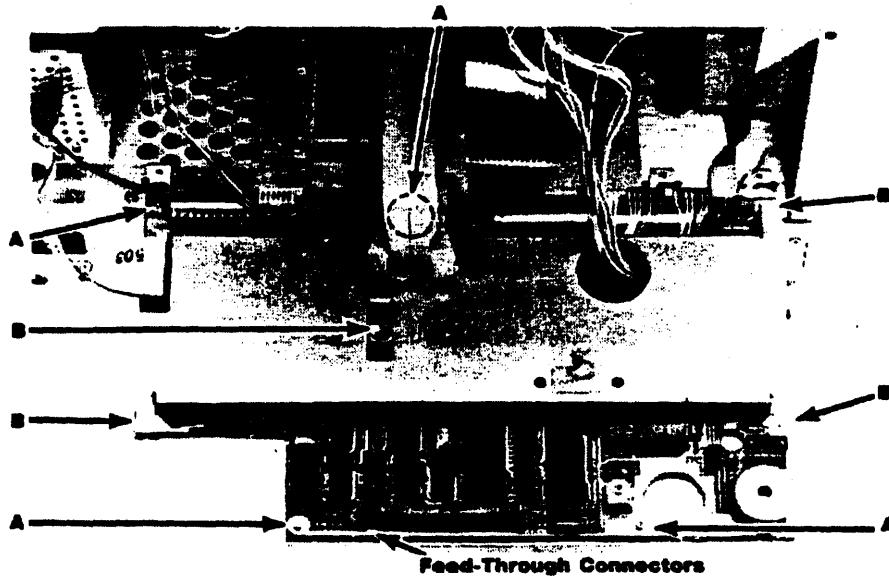

Figure 6-7. Logic B PCA Screws and Feed-Through Connectors.
7. Remove the four shield screws (labeled "B" in figure 6-7). Lift up the shield and disconnect the display flex cable from the logic B PCA.
10. Remove the four remaining screws that hold the logic B PCA (labeled "A" in figure 6-7).
Reassembly Notes: Make sure the plastic insulator sheet is positioned properly relative to the screw holes in the PCA mounting panel. Insert the feed-through connectors into the logic A PCA, align the logic B PCA over the pins, then press the PCA into place. Press *as close to the connectors as possible*. Secure the PCA with its mounting screws (labeled "A" in figure 6-7) before you reconnect any cables.
8. Remove the four screws that hold the logic B shield (labeled "B" in figure 6-7). Lift up the shield and disconnect the display flex cable from the logic B PCA and display assembly.